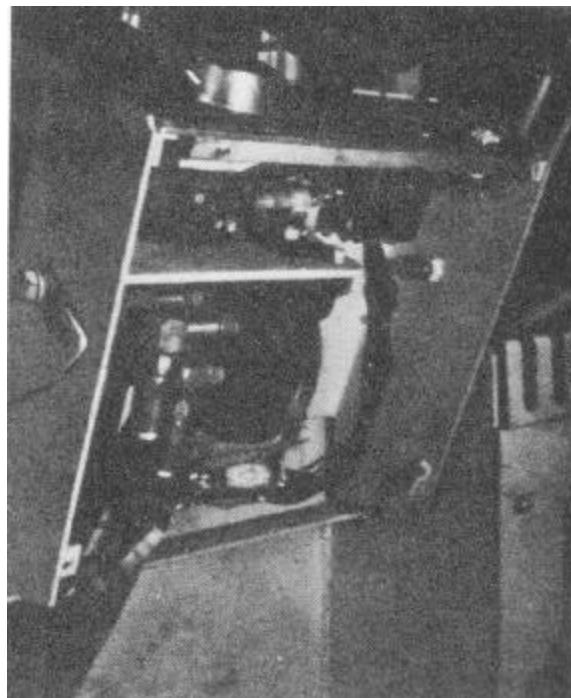

Figure 5-160
1. Disconnect (4) hydraulic lines from orbitrol unit (Fig. 5-160).
2. Remove (2) 3/8-16 hex head bolts attaching steer column orbitrol assembly to console mounting bracket (Fig. 5-160).